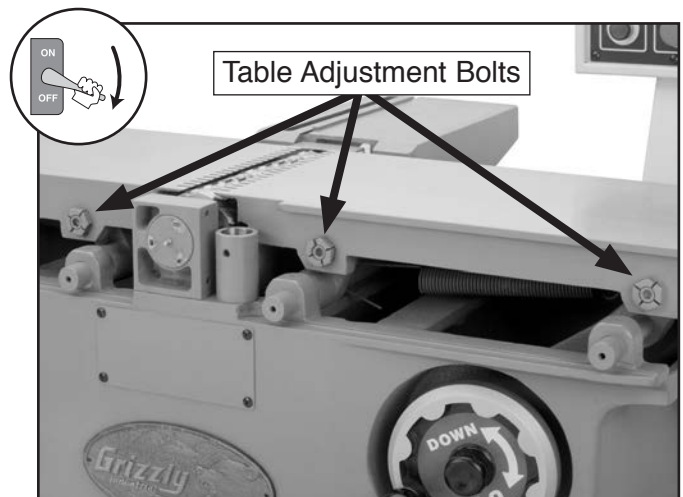

Figure 71. Front table cover removed to expose the table adjustment bolts.
- Loosen the cap screw in the center of the outfeed table adjustment bolt three full turns, then loosen the set screw that is directly underneath the adjustment bolt (see **Figure 71**).
- The adjustment bolt shaft is cam-shaped, as shown in **Figure 71**, and connects the table to the lifting arm. Rotate the adjustment bolt in very small increments to raise or lower the front corner of the outfeed table until the surface is the correct height above the cutterhead, as instructed in **Step 4**.
- When the outfeed table height is correct and parallel to the cutterhead, re-tighten the adjustment bolt cap screw and set screw (see **Figure 71**), then make sure the table lock is tightened.